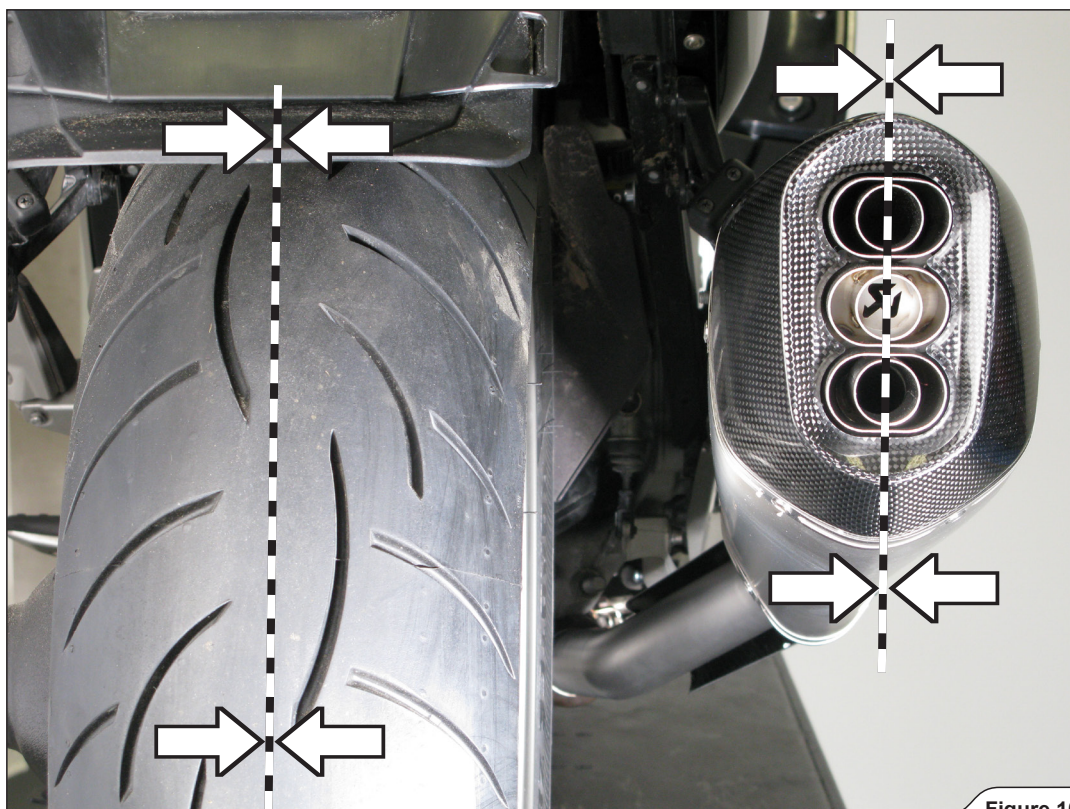

Figure 10
- Align both mufflers in respect to the rear tire (**Figure 10, 11**).